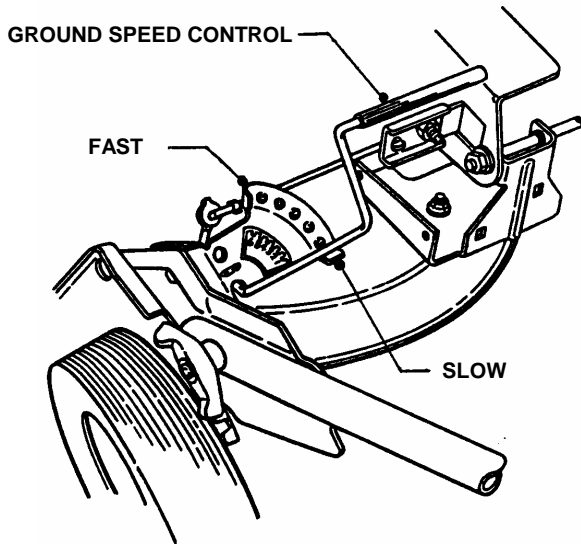

FIGURE 2.4
1. Move ground speed control to the desired speed position. See Figure 2.4.